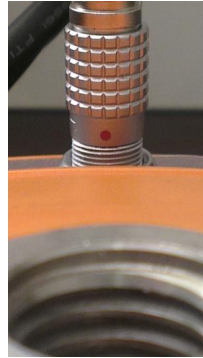

Figure B-1: The red dot on the lemo plug should align with the centre of the Altus NR3
- Insert the lemo plug into the Altus NR3 by aligning the red dot on the connector with the centre of the unit as shown in Figure B-1